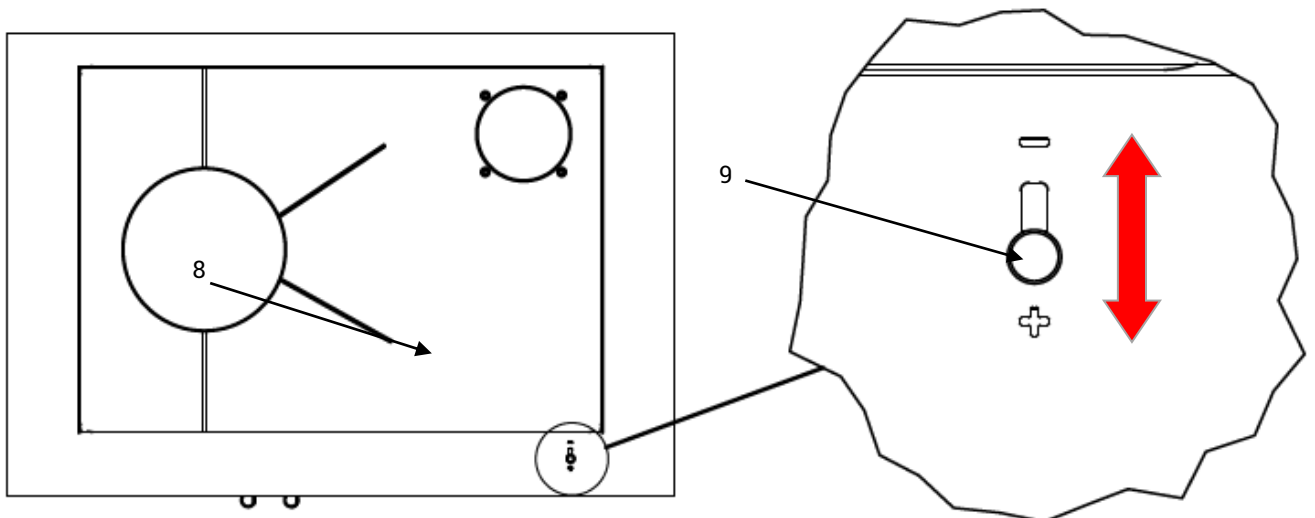

Figure 8
- Set the draught lever knob to the "+" position; the flap for ignition and heating should be open (Figure 8, position 9).
- After the stove has been ignited (and a bed of embers has formed), set the draught lever knob to the "-" position (Figure 8, position 9).
The launch of heating and ignition damper is carried out by means of draught lever button (Figure 8, position 9) located above the oven door. The damper's role is to cut off the pathway of flue gases during ignition, as described on Figure 9 and 10.